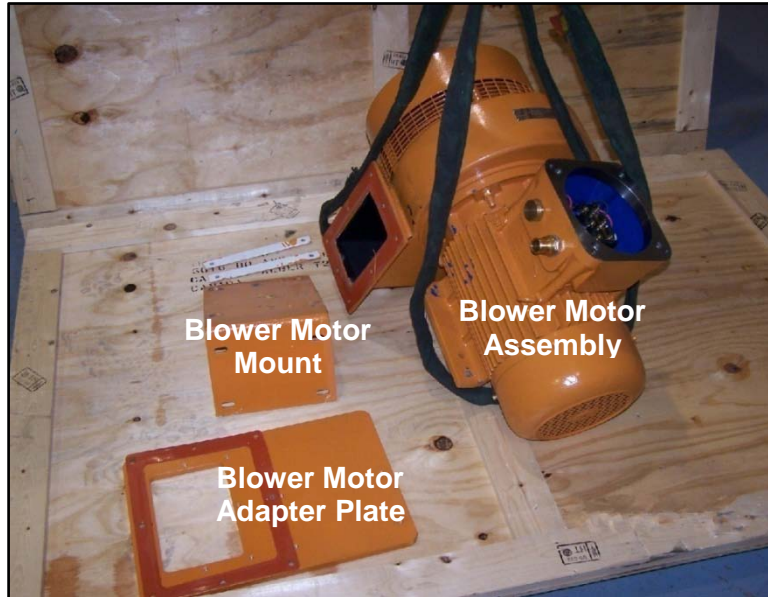

Figure 5: Blower motor assembly, blower motor mount, and blower motor adapter plate shown
3. Remove the blower motor assembly complete with blower motor adapter plate and blower motor mount (Figure 5).